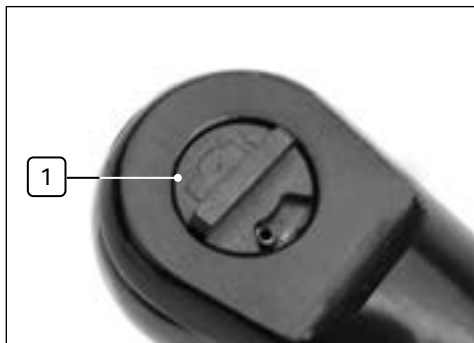

Fig. 5
7.2 Forward/Reverse Selection (Fig.5)
- Turn the selector **1** anti-clockwise to select (F) forward and clockwise for (R) reverse operation.